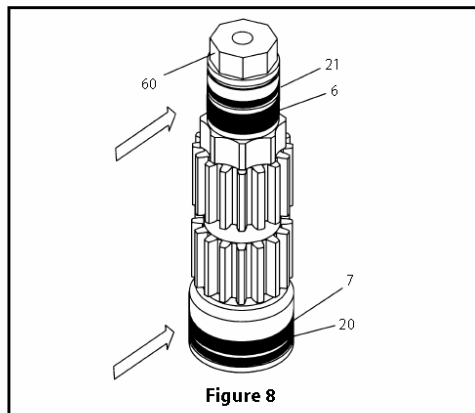

Figure 8
1. Drive Shaft (60) Assembly, (Figures 8 & 9):
- A. Install the top and bottom shaft bearings (6, 7) and o-rings (21, 22) onto the shaft (60).